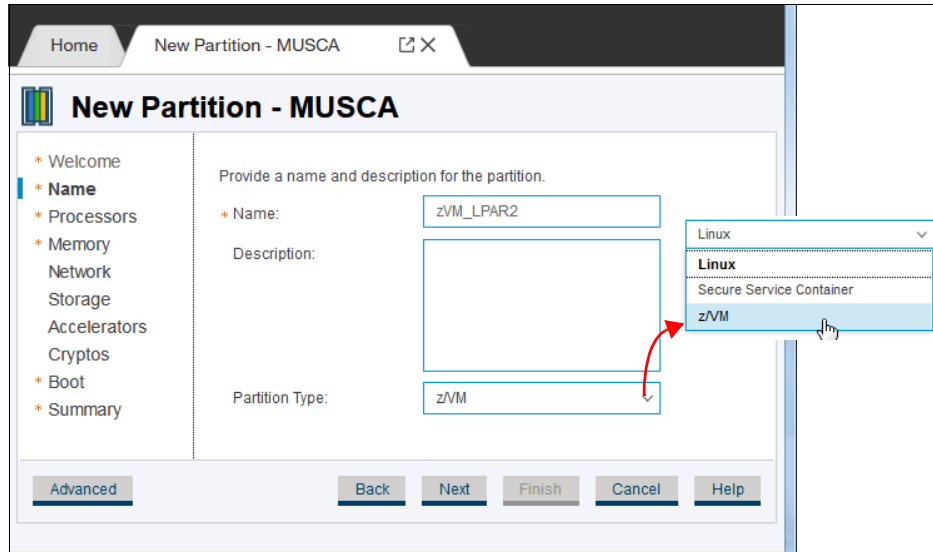

Figure 16-44 Partition name, description, and type
- The basic information for a partition (name, description, and type) are configured in the next menu, as shown in Figure 16-44. Select the partition type as **z/VM** and click Next.